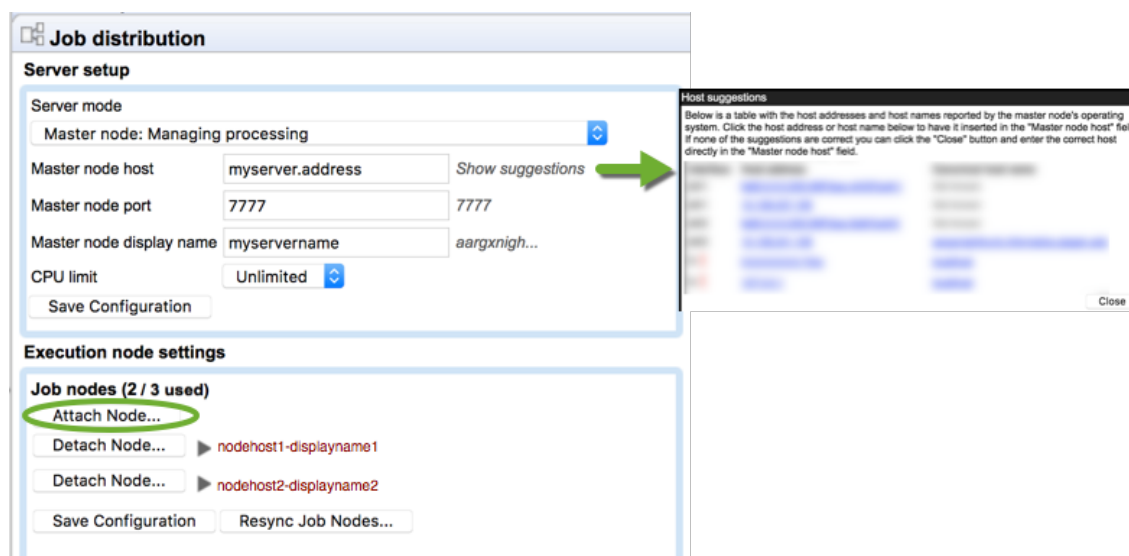

Figure 6.2: Setting up a master server.
- Click on the **Attach Node** button to specify a job node to attach. See figure 6.2.
- **Bringing job nodes back in sync with the master** It is expected the job nodes will stay in sync with the master. However, if one of the job nodes gets out of sync, click on the **Resync job nodes** button, which can be seen in figure 6.2.